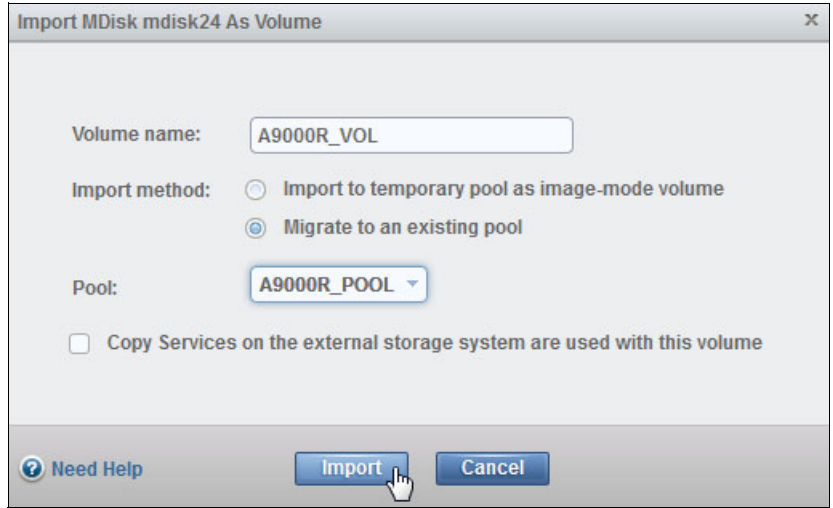

Figure 5-23 Import MDisk
- Change the Volume Name, select **Migrate to an existing pool**, select the pool, and click **Import**, as shown in Figure 5-23.